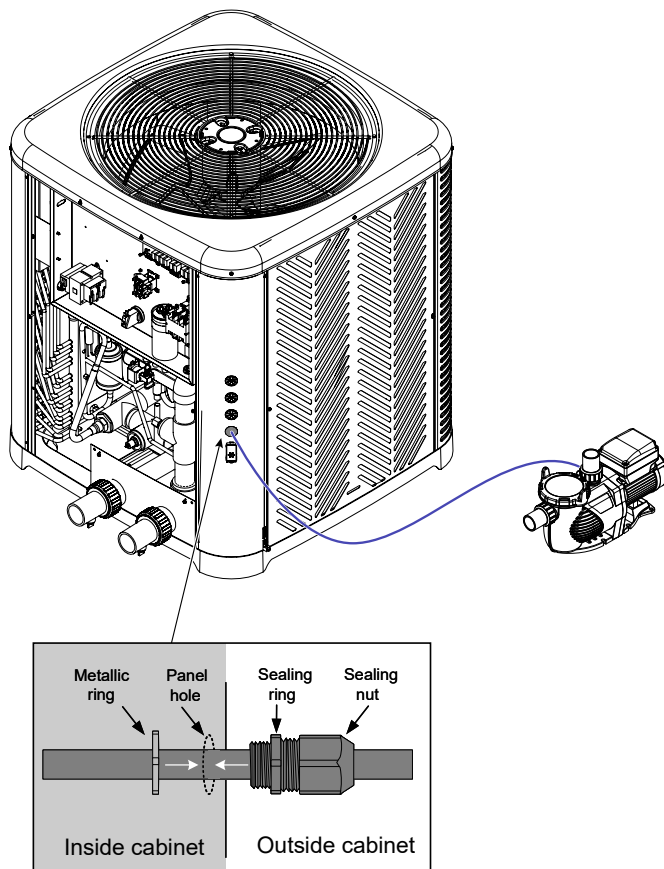

Figure 134. Wiring External Devices Using Liquid Tight Connectors
6. In the case you decide to remove the grommets to connect external devices to the heater, run wires using metallic conduit or outdoor-resistant cables. Then, connect the conduit or cables to the knockout using liquid tight connectors to prevent water or dust from entering the system. See Figure 134.